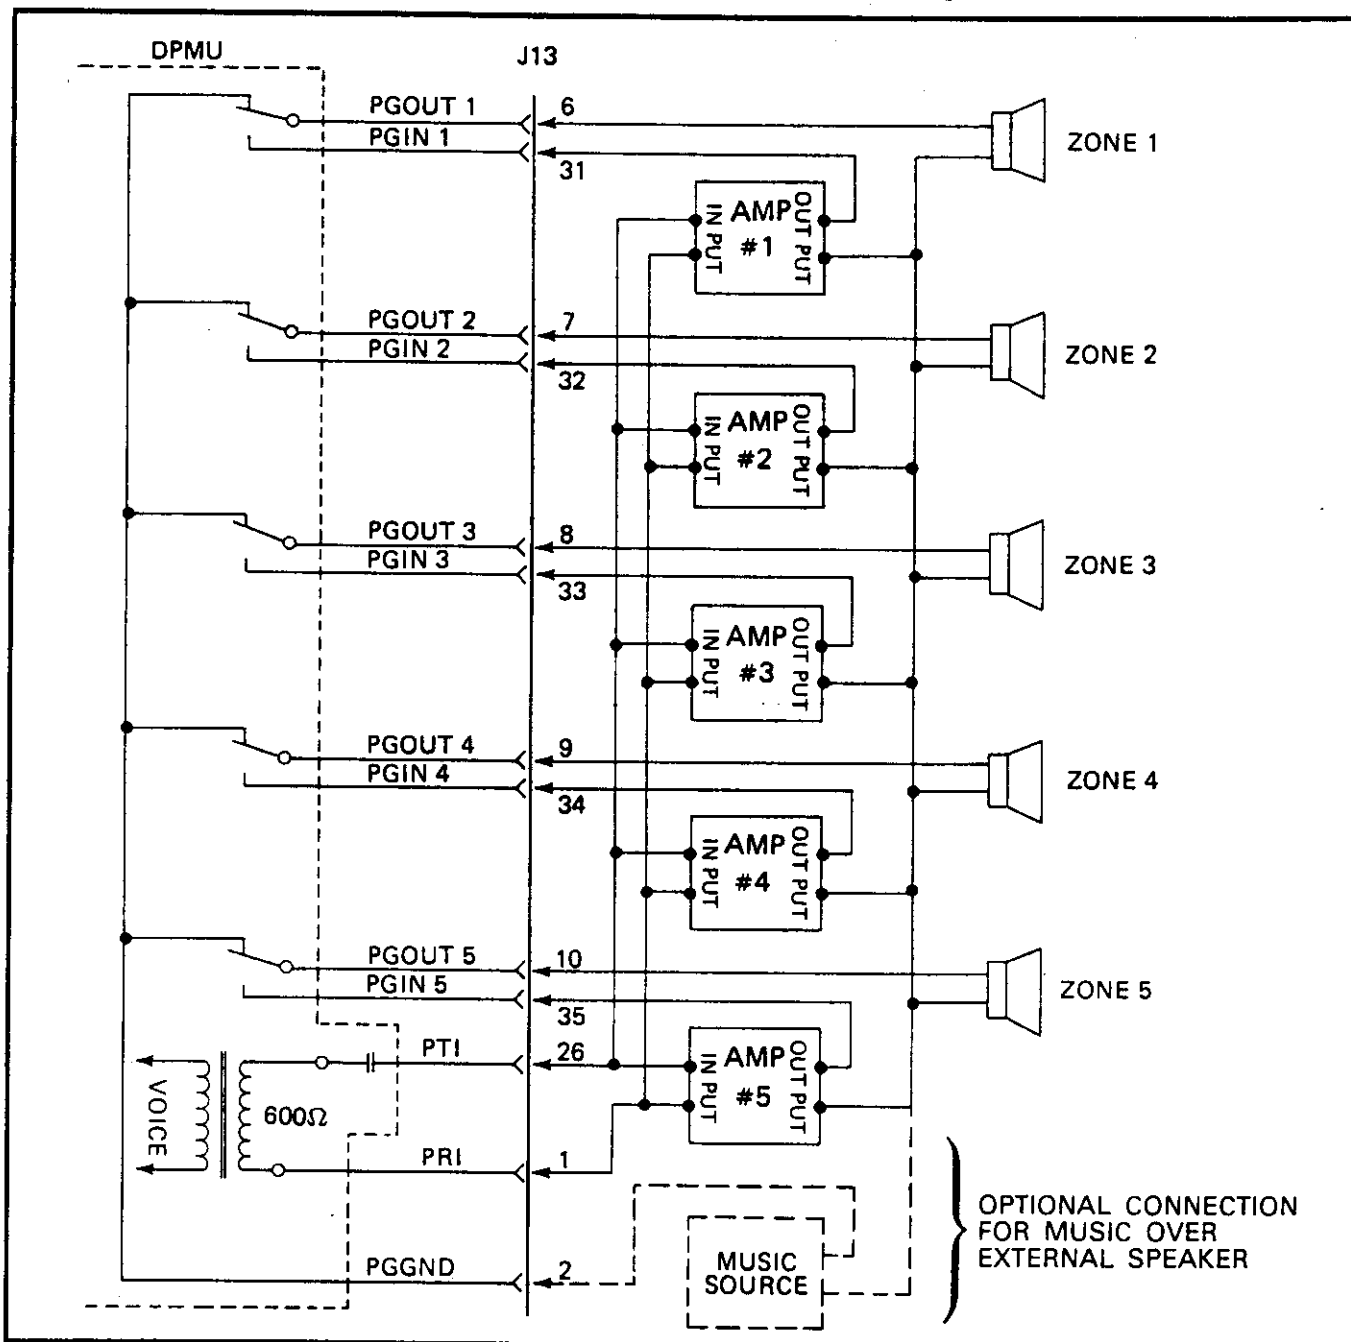

FIGURE 49—PAGING WITH MULTIPLE AMPLIFIERS
13.34 If the power loads of the different zones are such that a single amplifier is not suitable, then multiple amplifiers (up to one for each zone) can be connected, as shown in Figure 49.
Refer to Figure 49 for the proper connections regarding each of these printers.